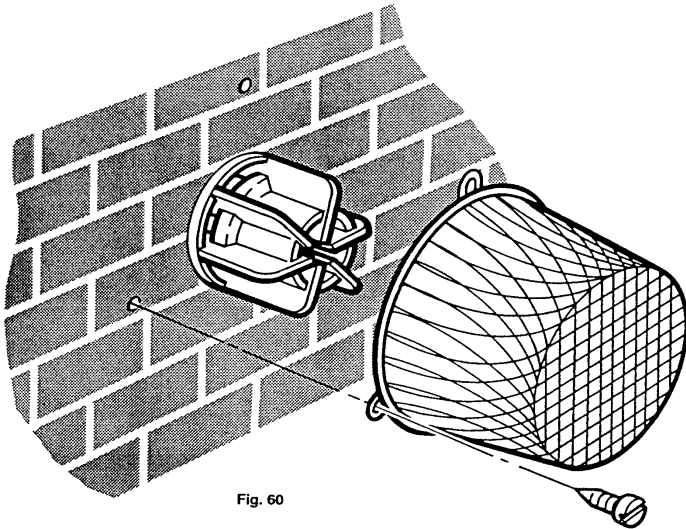

Fig. 60
5.14 Fitting a Terminal Guard (Fig. 60)